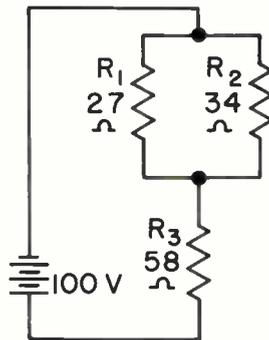

Fig. 9
5. 1.37; 0.763; 0.606 . . . The first thing to do when a circuit is involved is to draw the circuit. Then, add to the drawing all pertinent data given. This was done in Fig. 9. There are various ways to solve this problem, but we'll show only one.